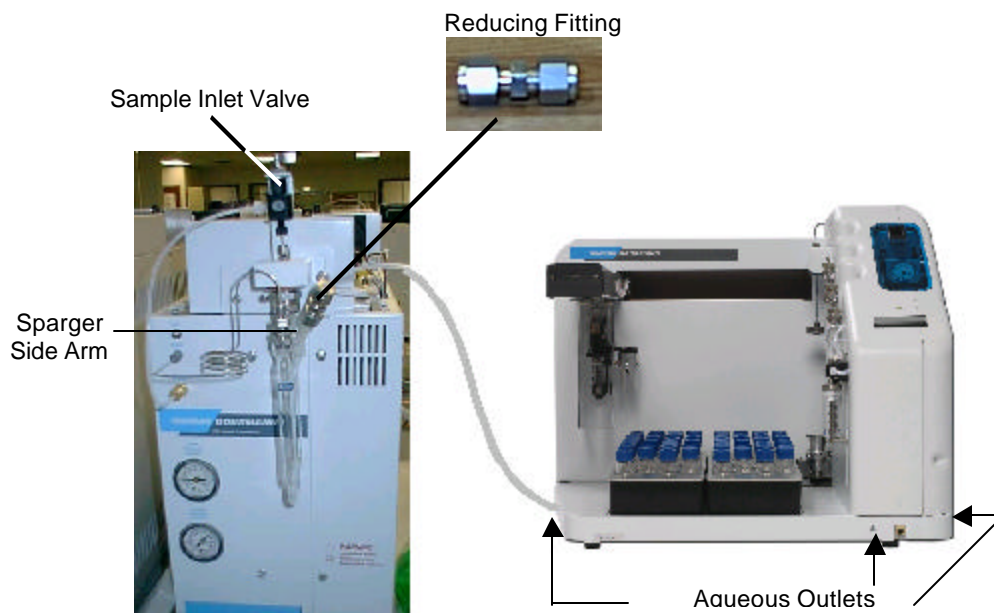

Figure 2-13: Aqueous Transfer: SOLATek 72 to Concentrator
1. Locate the Communication cable in the kit box (Part No. 14-8390-086) The modular end plugs into the rear of SOLATek 72 and the 9-Pin connector goes to the concentrator (Figure 2-13)